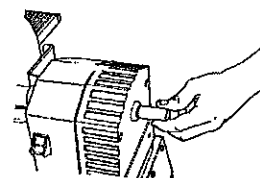

Fig.H-12
1. Turn off and unplug the Power Station, then remove the safety key (35) from the switch.
2. Remove the outer shaft cover (40) from the outer shaft. See Fig.H-12.